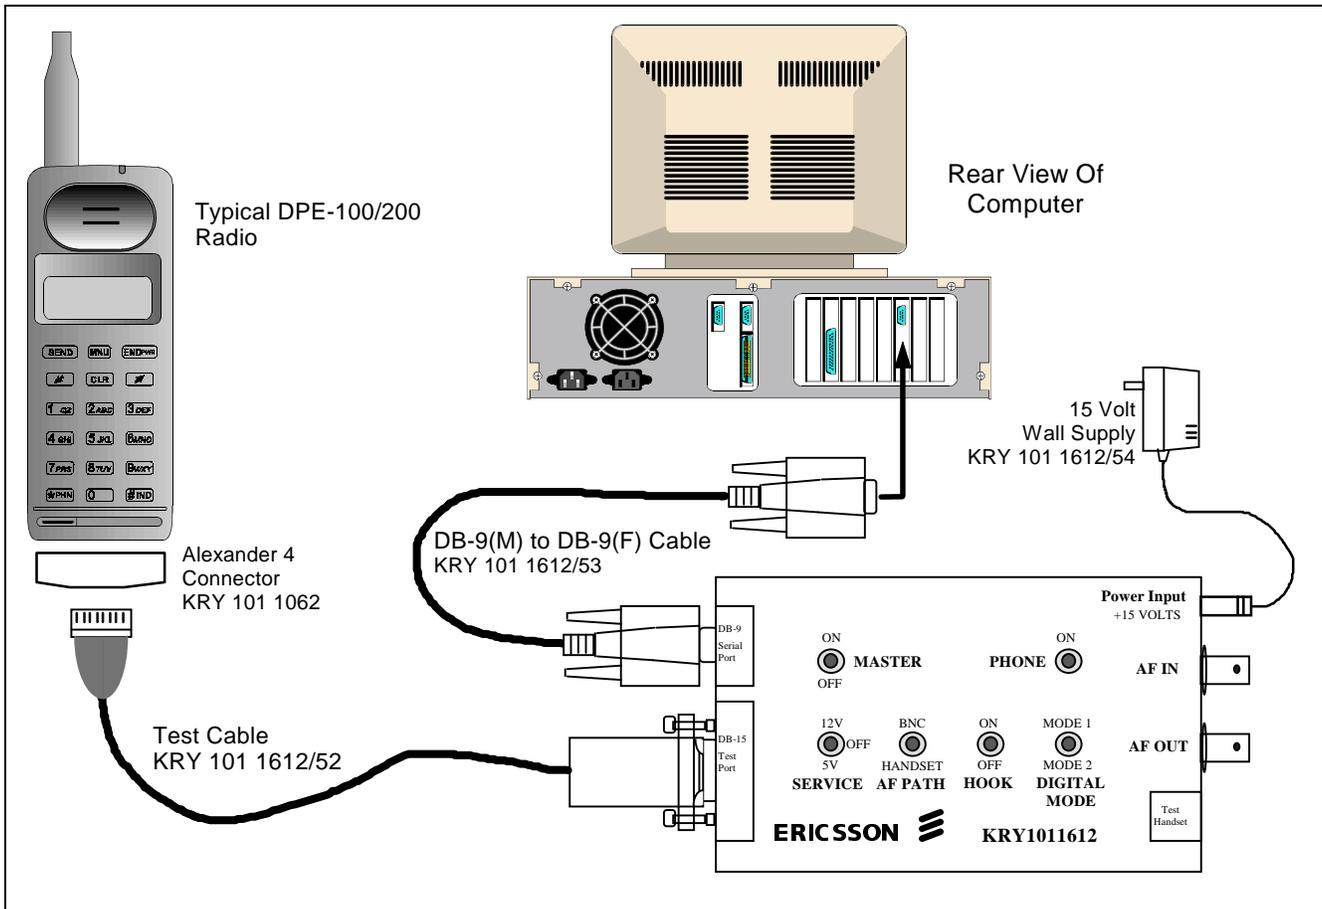

Figure 10 - Personality Programming Equipment Setup
The EDACS-2 PC Programming software communicates with the radio through the Troubleshoot Box (item 1 in the equipment list). Figure 10 provides a diagram of the Equipment Setup required to PC Program the radio. Refer to the PC Programming manual (TQ-3373) for detailed software operating instruction.
1. Connect as shown in Figure 10 with all switches on Troubleshoot Box (KRY 101 1612) in down or **OFF** position.